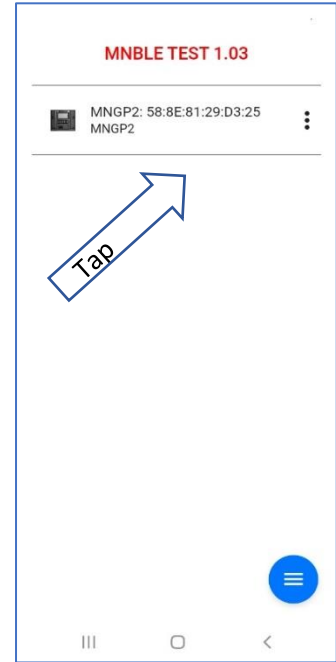

Figure 18
1. Download to your cell phone the Hawke's Bay firmware (FW) from the MidNite Solar website using this link ... <https://www.midnitesolar.com/firmwareIndex.php>
4. FW app will appear as shown in **Figure 18**.